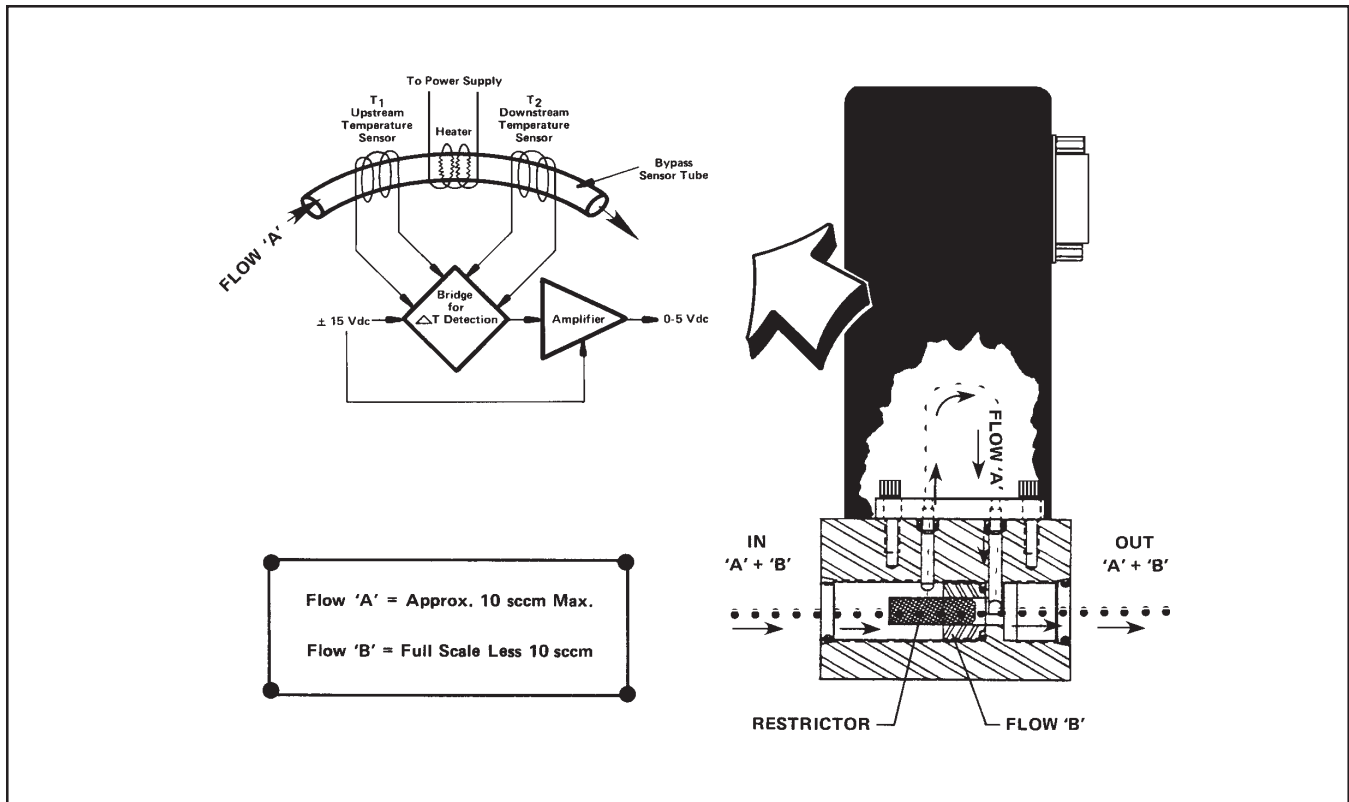

Figure 3-1 Flow Sensor Operational Diagram
A precision power supply provides a constant power heat input (P) at the heater which is located at the midpoint of the sensor tube. (Refer to Figure 3-1) At zero or no flow conditions, the heat reaching each temperature sensor (one upstream and one downstream of the heater) is equal. Therefore, the temperatures T1 and T2 are equal. When gas flows through the tube, the upstream sensor is cooled and the downstream sensor is heated, producing a temperature difference. The temperature difference T2-T1 is directly proportional to the gas mass flow.
The flow restrictor shown in Figure 3-1 performs a ranging function similar to a shunt resistor in an electrical ammeter. The restrictor provides a pressure drop that is linear with flow rate. The sensor tube has the same linear pressure drop/flow relationship. The ratio of the restrictor flow to the sensor tube flow remains constant over the range of the meter. Different restrictors have different pressure drops and produce controllers with different full scale flow rates. The span adjustment in the electronics affects the fine adjustment of the controller's full scale flow.